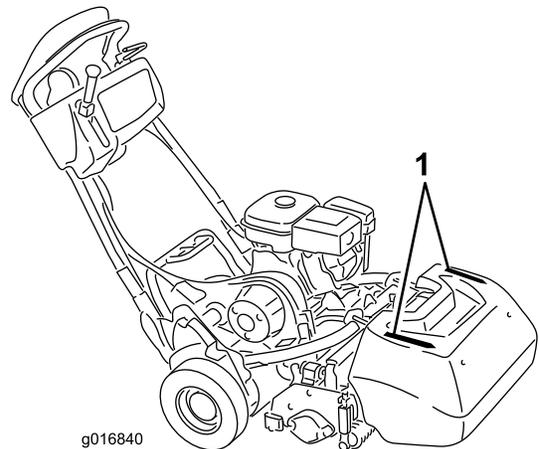

Figure 31
- To assist in maintaining a straight line across the green and to keep the machine an equal distance from the edge of the previous cut, use the alignment stripes on the basket (**Figure 31**).